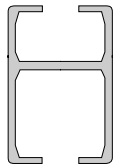

Figure 1.
1. Lay out all components. Locate shelf, bin bar, casters, and plastic end caps (Fig. 1) and set aside.